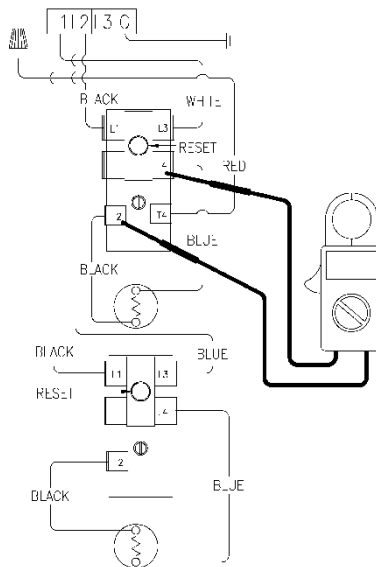

Figure 12
5. Check across terminals L4 and T2 of upper thermostat (see Figure 12).